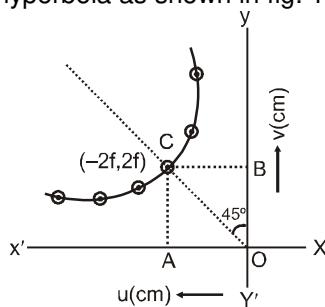

Fig. 15(C).3 Graph of  $u$  v/s  $v$  for a convex lens
**Theory :** Suppose a convex lens L is interposed between a convex mirror M and an object needle O as shown in fig 15 (A). When the relative position of M, L and O are adjusted in such a way that there is no parallax between the object needle O and its image I, then in that position, the rays will fall normally on the convex mirror M. The rays which fall on the mirror normally should meet at the centre of curvature C of the mirror when produced (Fig.).
- (ii) Plot the points for various sets of value of  $u$  and  $v$  from the observation table. The graph will be a rectangular hyperbola as shown in fig. 15(3).3